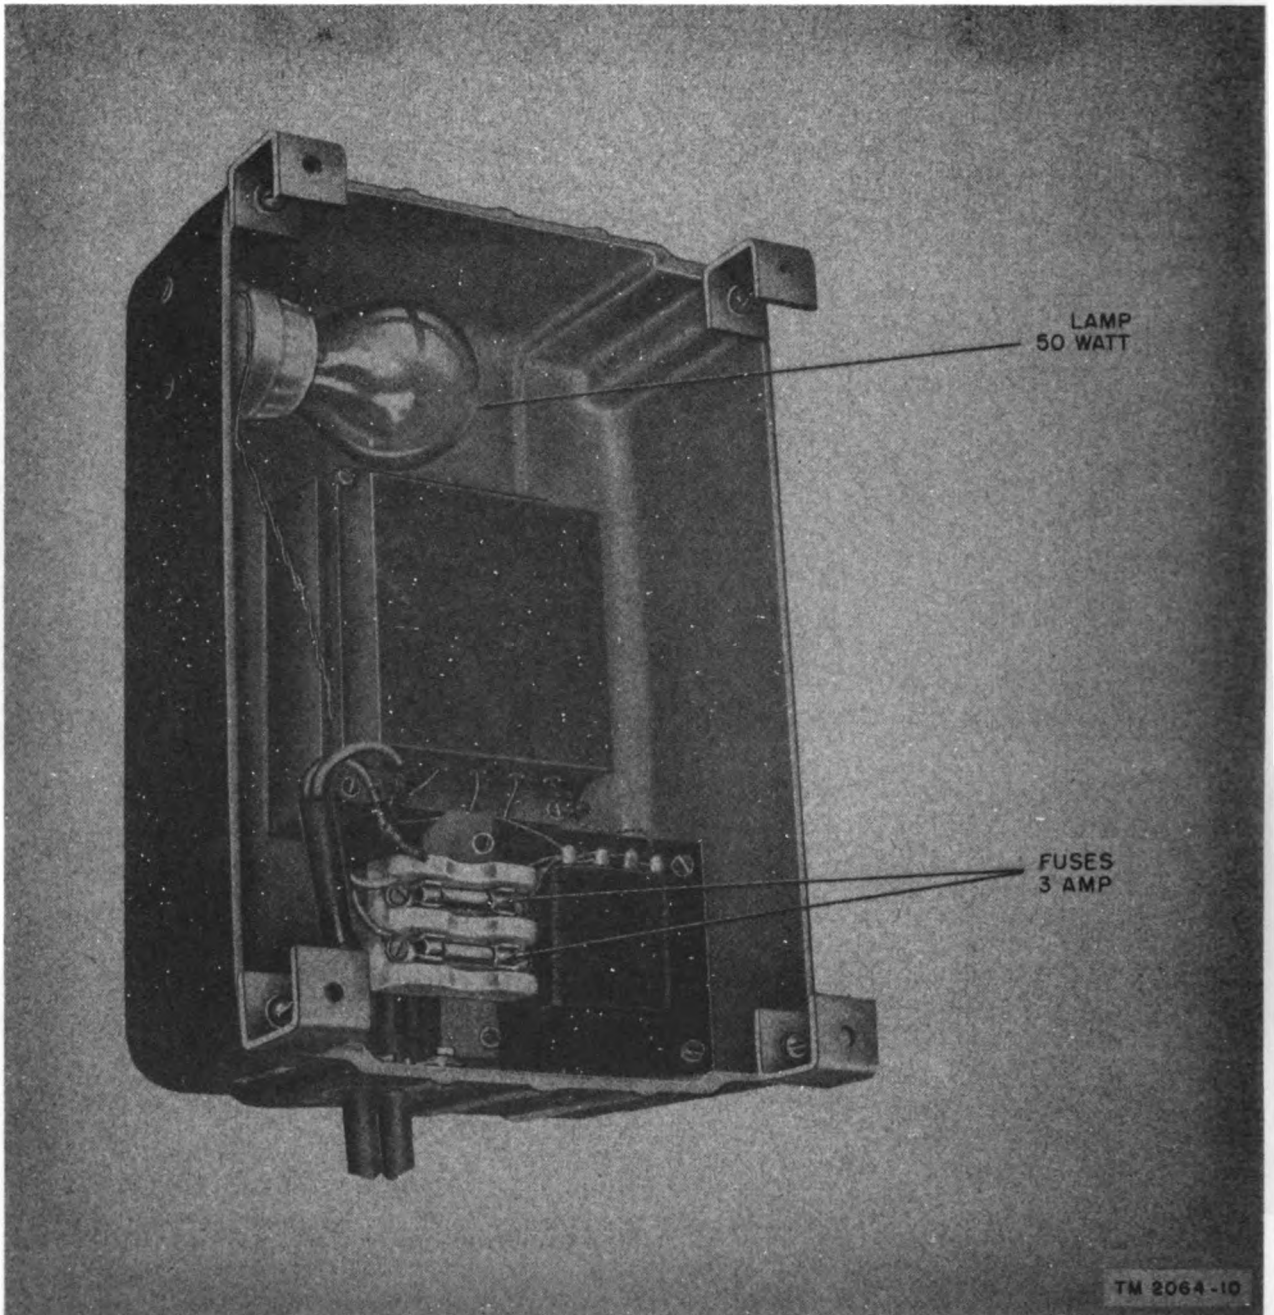

Figure 8. Telering, showing location of fuses and incandescent lamp.
d. TELERING (INTERRUPTER PE-250) (figs. 8 and 28). This is a vibrating-reed type of frequency converter for supplying 20-cycle ringing equipment from a 110-volt, 60-cycle a-c source in telephone central office installations. The interrupter consists of a metal cabinet 12 inches long, 8½ inches wide, and 4 inches deep, within which is suspended a vibrating-reed assembly, an electromagnet, and a contact-adjusting thumbscrew. Contacts on the reed and on the contact-adjusting screw are located in a small compartment behind a removable plate on the face of the cabinet. There is a removable plate on the back of the cabinet. Two standard 3-amp (ampere), glass type fuses (fig. 8) are arranged in a standard fuse block on the inside of the back cover of the cabinet and are easily accessible. A 50-watt lamp (fig. 8) is arranged in the circuit and lights if there is a short on the line or a heavy load on the